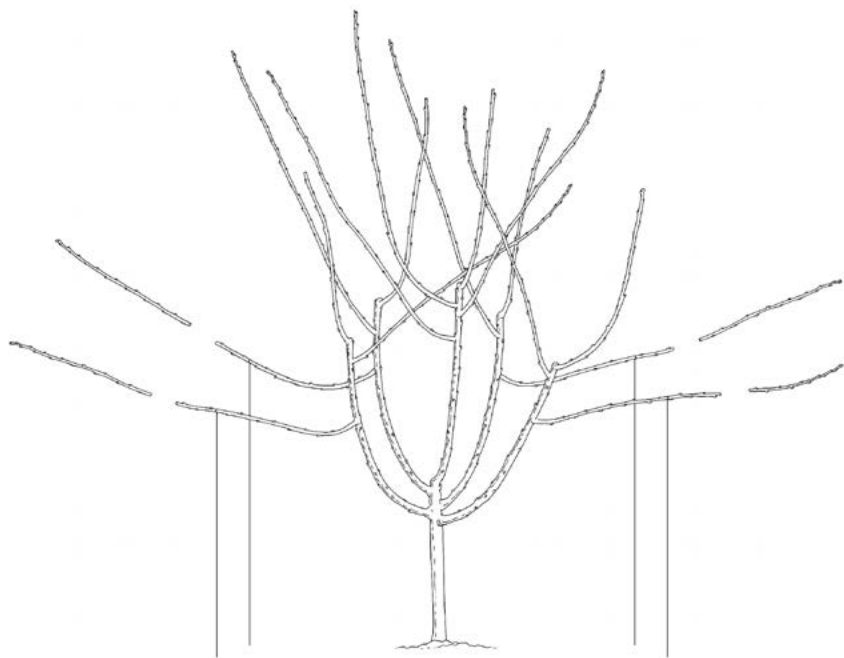

Figure 28
- Select one outward-facing lateral shoot to serve as the permanent bottom whorl. Tie this branch down to a horizontal position to establish a wide base. Head this branch 24 inches from its base (Figure 28). **Tie downs will be removed at the end of the third growing season.**